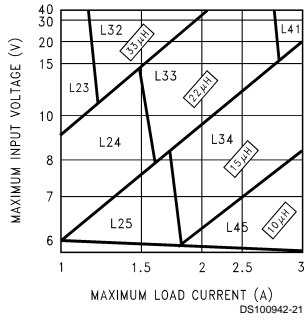
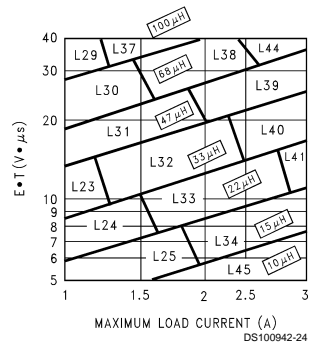

FIGURE 3. LM2670-3.3
FIGURE 6. LM2670-ADJ
Step 3: Determine the inductor required by using one of the four nomographs, *Figure 3* through *Figure 6*. Table 1 provides a specific manufacturer and part number for the inductor.
Step 5: Determine an input capacitor from Table 4 for fixed output voltage applications. Use Table 2 to find the specific capacitor type. For adjustable output circuits select a capacitor from Table 2 with a sufficient working voltage (WV) rating greater than $V_{in\ max}$, and an rms current rating greater than one-half the maximum load current (2 or more capacitors in parallel may be required).
Step 3: Use the nomograph for the 3.3V device, *Figure 3*. The intersection of the 16V horizontal line ($V_{in\ max}$) and the 2.5A vertical line ($I_{load\ max}$) indicates that L33, a 22 μ H inductor, is required.
Step 3: To use the nomograph for the adjustable device, *Figure 6*, requires a calculation of the inductor Volt•microsecond constant ($E \cdot T$ expressed in $V \cdot \mu$ s) from the following formula:
Using *Figure 6*, the intersection of 27V•μS horizontally and the 2A vertical line ($I_{load\ max}$) indicates that L38, a 68μH inductor, should be used.
Important Note: When using the adjustable device in low voltage applications (less than 3V output), if the nomograph, *Figure 6*, selects an inductance of 22μH or less, Table 6 does not provide an output capacitor solution. With these conditions the number of output capacitors required for stable operation becomes impractical. It is recommended to use either a 33μH or 47μH inductor and the output capacitors from Table 6.